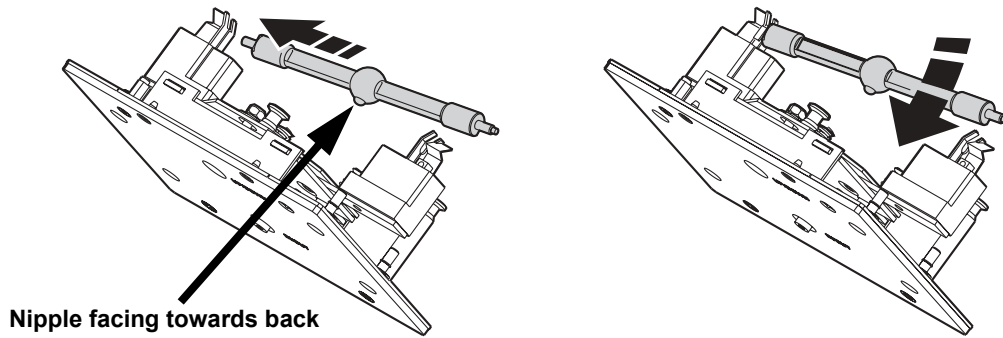

Figure 3: Lamp insertion
4. With the nipple on the replacement lamp facing towards the back as shown in Figure 3, insert the left pin into the socket. Push down on the right-hand spring and snap the pin into place.